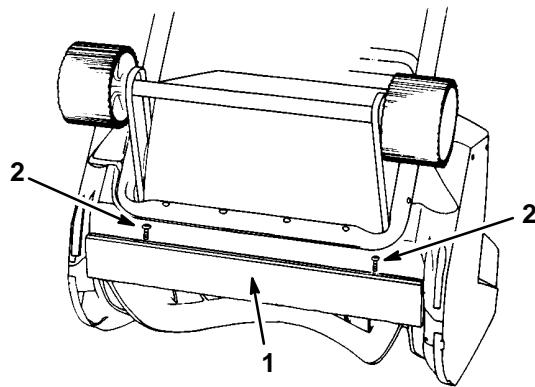

Figure 11
1. Remove (2) screws securing scraper to snowblower (Fig. 11).
2. Install new scraper and fasten securely with (2) screws.